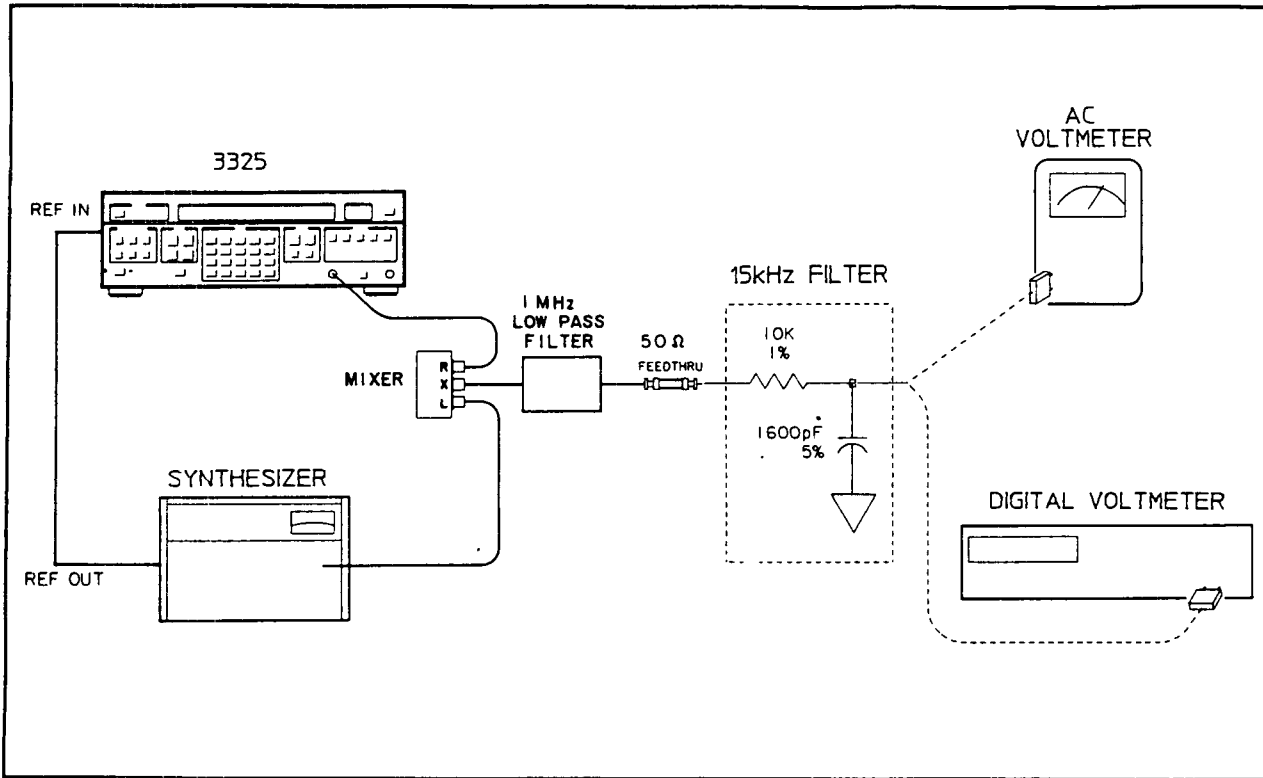

Figure 4-8. Integrated Phase Noise.
Capacitor: 1600 pF \pm 5% (see figure 4-8)
a. Connect the equipment as shown in figure 4-8, connecting the 15 kHz noise equivalent filter output to the ac voltmeter. Phase lock the HP 3325B and the signal generator together.